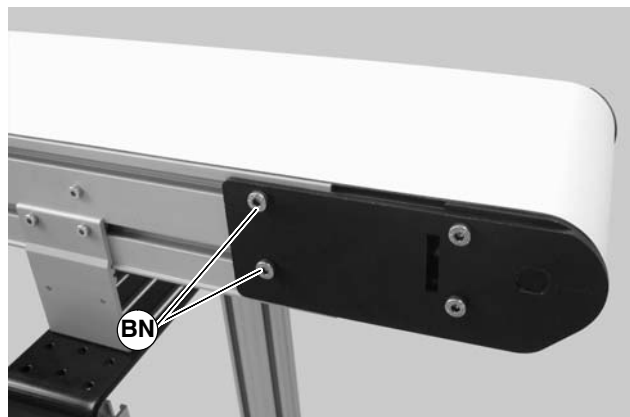

Figure 37
1. On the side of conveyor which the belt is tracking towards, loosen the head plate fastening screws (BN of Figure 37).
3. Re-tighten the head plate fastening screws (BN of Figure 37) with a 5 mm hex-key wrench to 146 in-lb (16.5 Nm).